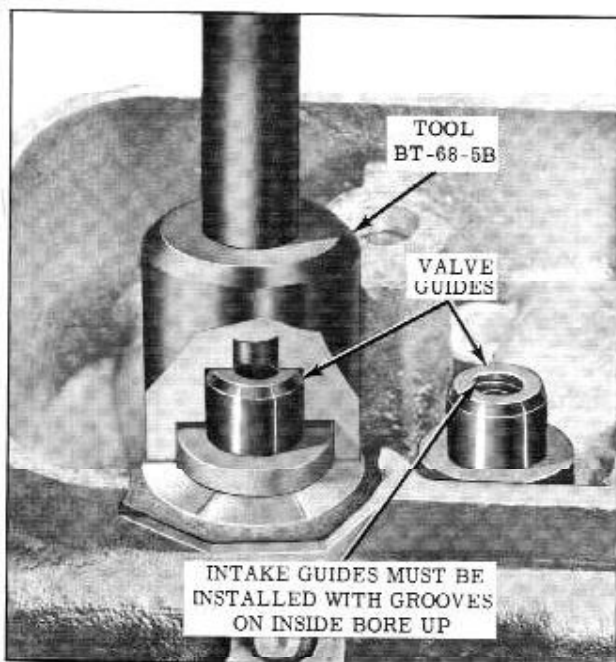

Fig. 8-20 Installing Valve Guides
- Place guide Installer Tool BT-68-5B over new guide and drive until tool makes contact with cylinder head. This will automatically position guide. (Fig. 8-20)